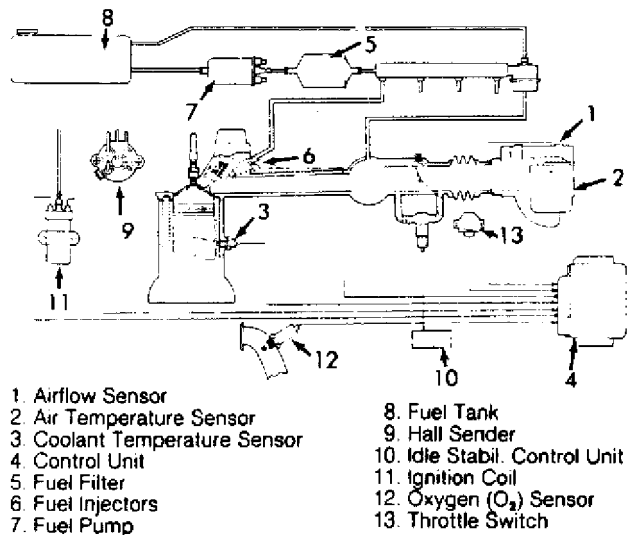

Fig. 11: Vanagon Digifant I Component Schematic
1) Attach Test Meter (VW 1315/2) and Adapter (US 1119) to idle stabilization valve. See Fig. 11. Set meter to milliamp scale. Start engine. Observe meter while turning A/C control switch to the "ON" position. If milliamp reading increases, system is okay.